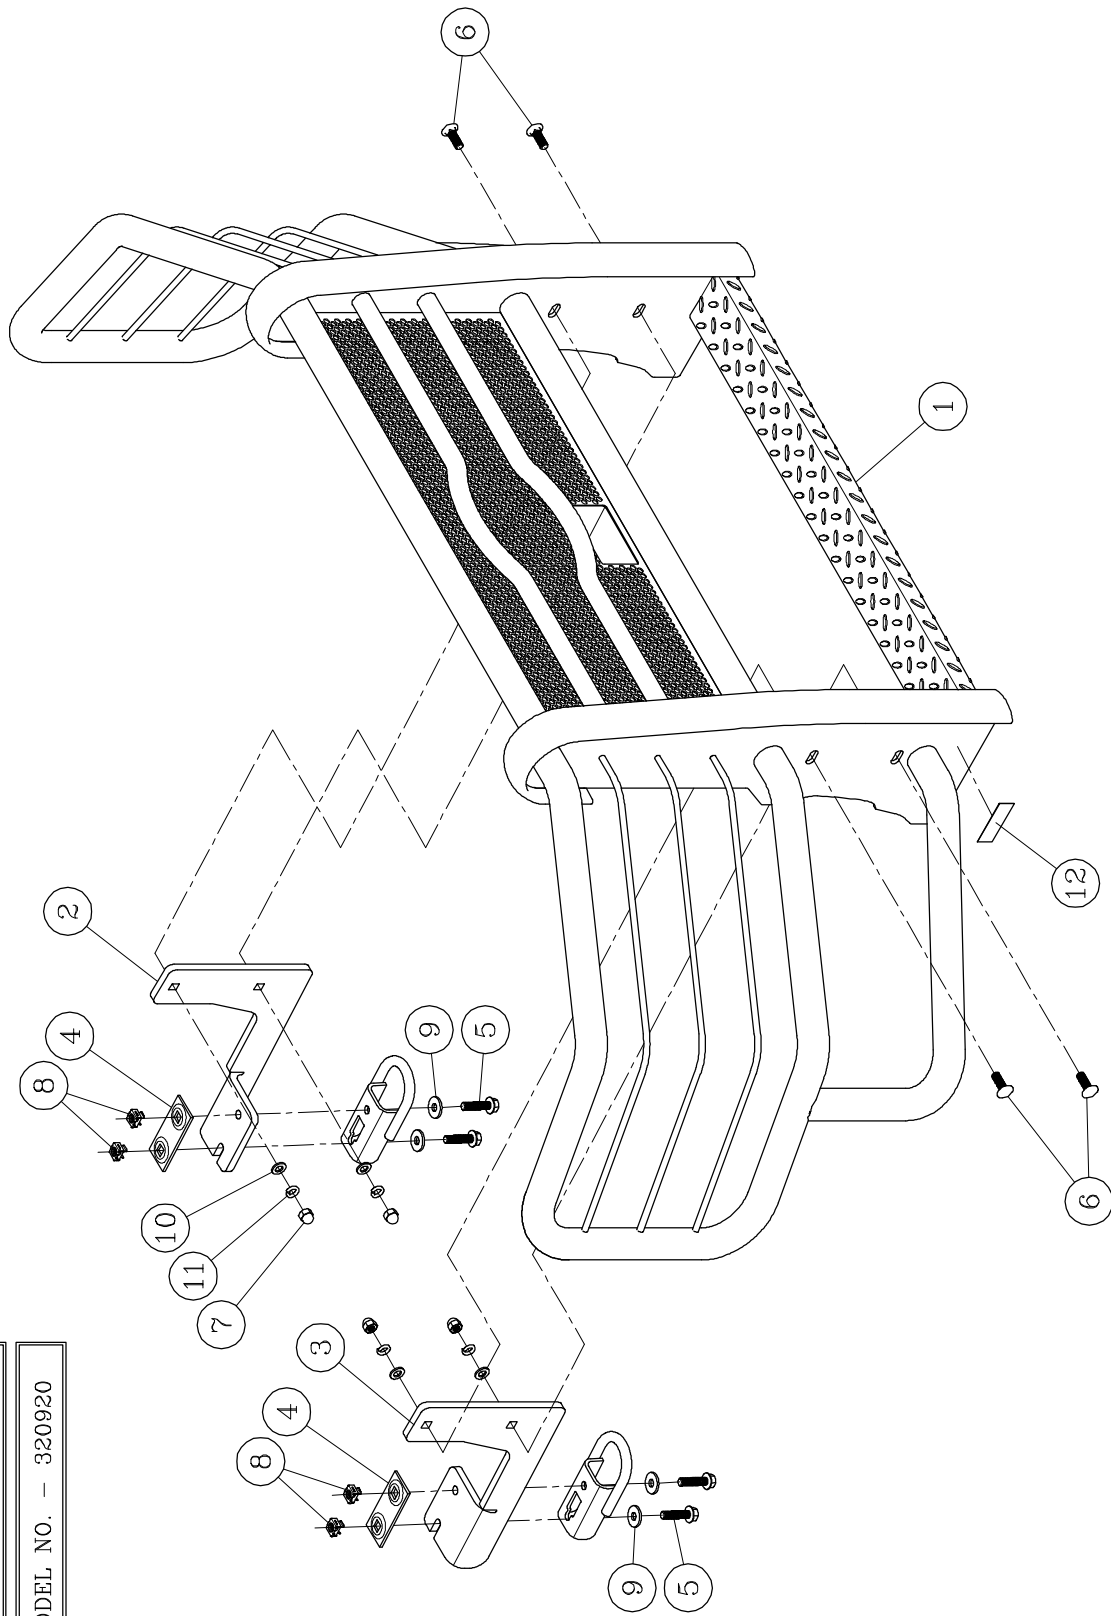

fig.1
4. INSTALL THE RIGHT HAND AND LEFT HAND MOUNTING BRACKETS (ITEM #2 & #3) USING TWO 1/2"-13 X 2" HEX HEAD FLANGE BOLTS (ITEM #5) AND TWO 1/2" FLAT WASHERS (ITEM #9), IN EACH BRACKET AS SHOWN IN *fig. 1*. HAND TIGHTEN ONLY AT THIS TIME.